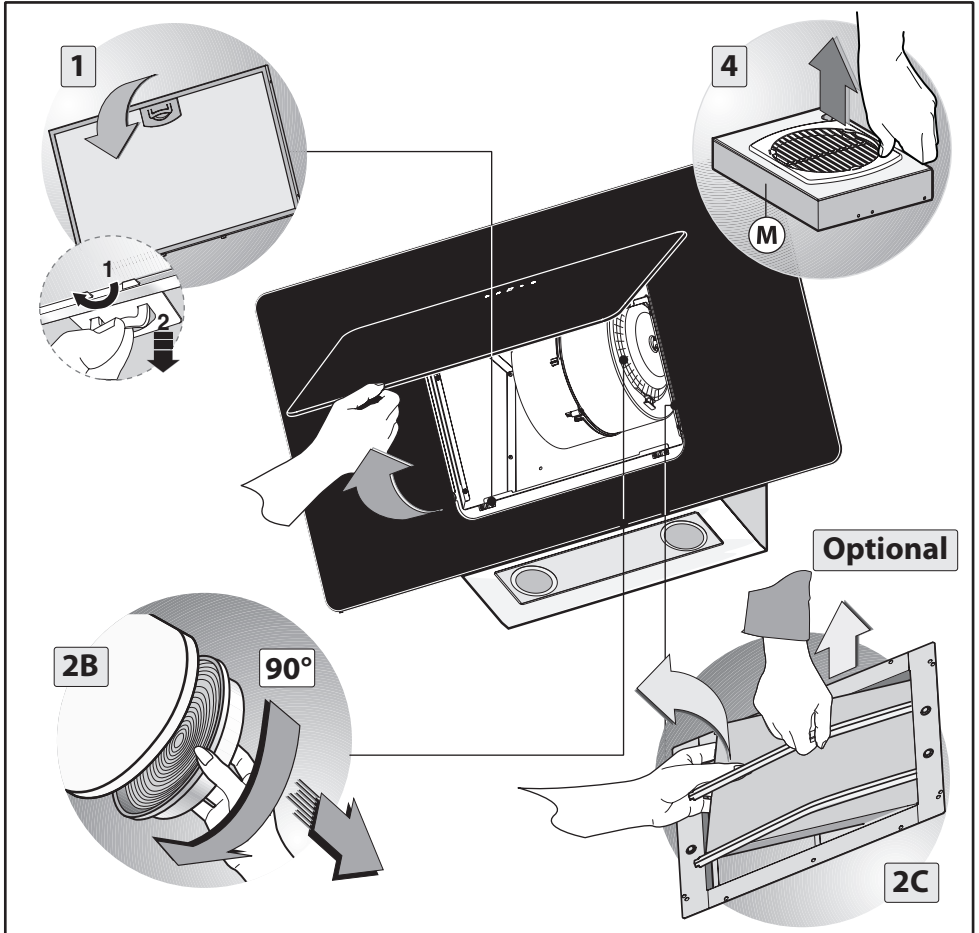

Fig.2
- 1.** Remove the **anti-grease filter** by pulling the handle, as shown in figure 2 - phase 1.
- 2.** If the product is equipped with activated charcoal **filters (B-C)**, remove them as shown in figure 2 - phase 2B or 2C.
- 3.** Unhook the small **cupola M** as shown in figure 2 - phase 4.